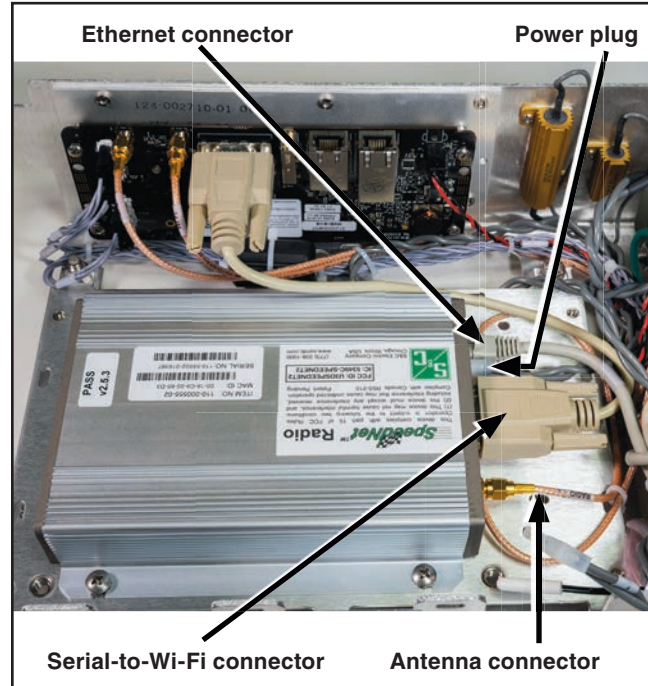

Figure 11. Radio installed in the communication module.
**STEP 4.** Install the radio on the mounting plate using the furnished hardware. See Figure 11 on page 12. The **Radio Ready** option includes a bag of parts for the radio ordered. Most bags include only a power-adaptor cable and the radio-mounting screws. See Figure 10.